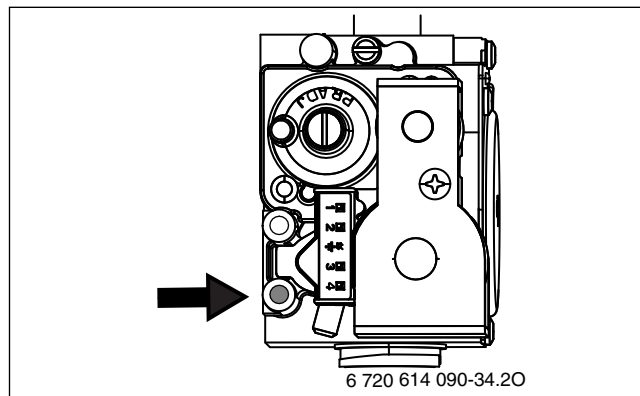

Fig. 61 Dynamic gas pressure test port
- ▶ Loosen the screw in the test port for gas inlet pressure (→ Fig. 47, [1]) and connect a pressure gauge (→ Fig. 61).